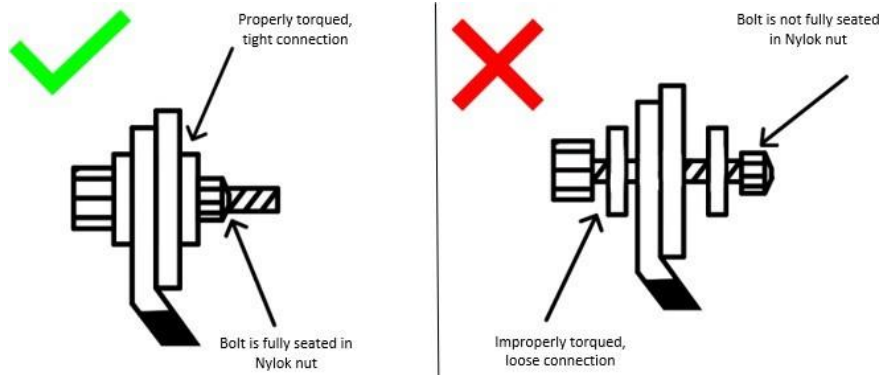

Figure 2: Proper and Improper Terminal Connections .
4. When connecting to your battery terminals, **DO NOT** finger tighten. Use a torque wrench to torque your hardware to the specification of 9 to 11 ft-lbs. Failure to adequately secure connections can result in severe damage and will void your warranty. Fig. 2 below demonstrates proper and improper connections.